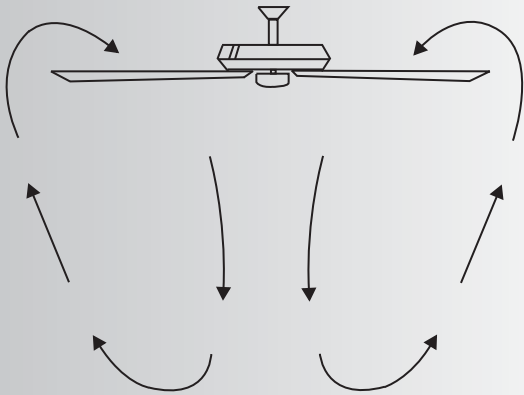

Fig. 25
**Warm Weather Operation:** Forward (counter clockwise) A downward airflow creates a cooling effect as shown in Fig. 25. This allows you to set your air conditioner on a warmer setting without affecting your general comfort.